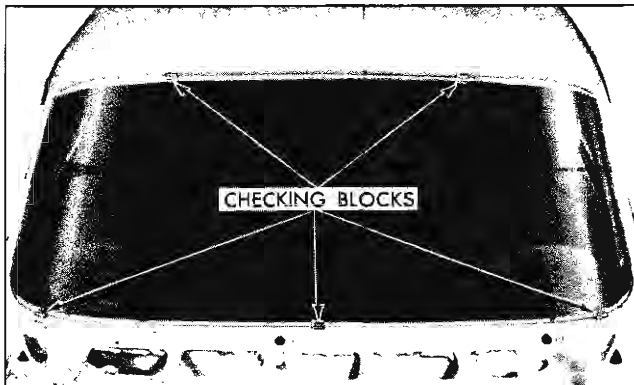

Fig. 2-7 Windshield Check Blocks
4. Install five windshield checking blocks as follows: along lower retaining flange place one block twelve inches (12") inboard of each lower corner and one at center of windshield opening. Position one block over upper pinchweld flange midway between center block and each outboard block on lower retaining flange (Fig. 2-7).
6. With windshield supported and centered in the body opening by checking blocks (Figs. 2-7 and 2-8), check relationship of glass to body opening around entire perimeter of glass as follows:
NOTE: Windshield checking blocks (J-8942) may be used as shown in Fig. 2-7.